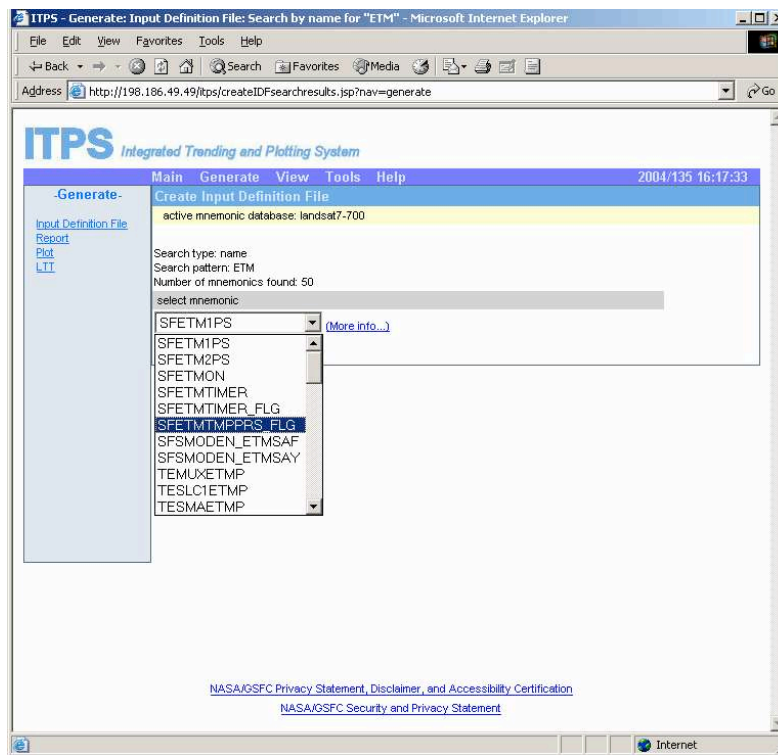

Figure 137: Web IDF Generation - Step 2
- Select the mnemonic to use from the Create Input Definition File (IDF) – Step 2 screen (see Figure 137).